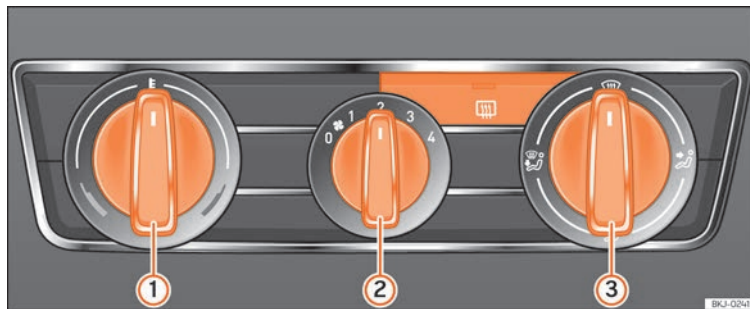

Fig. 170 Heating controls on the dash panel.
- Turn the temperature selector » Fig. 170 ① anti-clockwise.
»» Fig. 170 ① clockwise to select the required temperature.
- Turn blower switch ② to any of the levels 1-4.
- Set the airflow to the desired direction using air distribution control ③.
»» Fig. 170 ① clockwise to reach the maximum temperature.
- Turn the blower switch ② to level 4.
- Turn air distribution control to ④.
»» Fig. 170 ① to the heating zone.
- Turn blower switch ② to any of the levels 2-3.